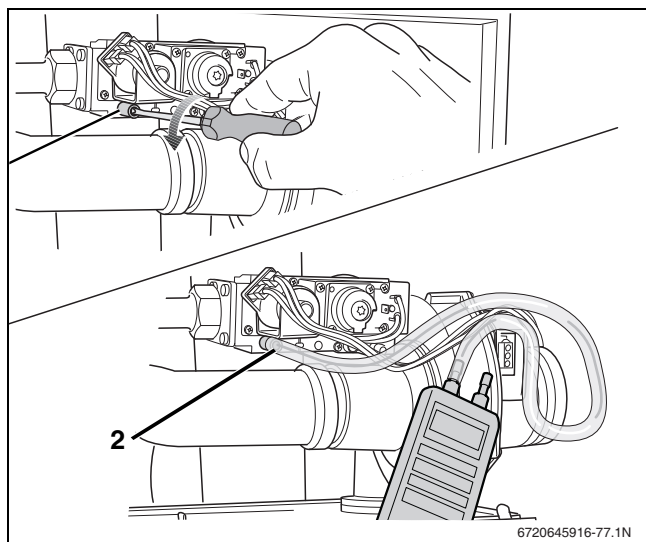

Fig. 80 Checking the gas fitting for internal tightness
- Open the screw plug on the testing nipple for the gas connection by 2 turns (→ fig. 80, [1]).
- Connect the pressure gauge tube to the testing nipple (→ fig. 80, [2]). The pressure drop allowed after 1 minute is max. 3.8" W.C. (10 mbar).